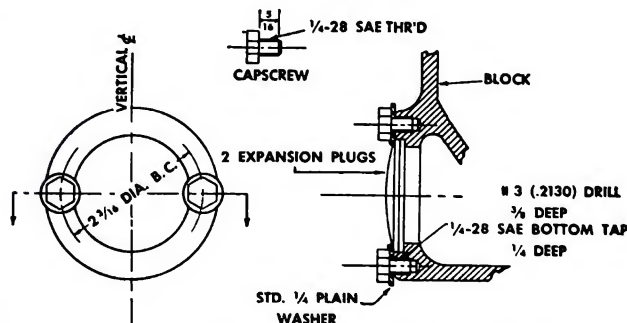

Fig. 2-25. Expansion plug locked in position in rear of block
1. Remove all expansion plugs from the cylinder block. If the block is one that has an expansion plug at the rear, two expansion plugs should be installed and locked in place with washers and cap screws as shown in sketch Figure 2-25.